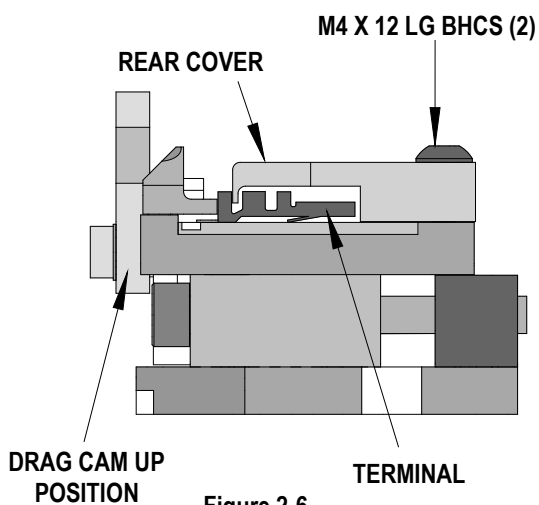

Figure 2-6
5. Loosen the two M4 BHCS to adjust the position of the rear cover. See Figure 2-6.